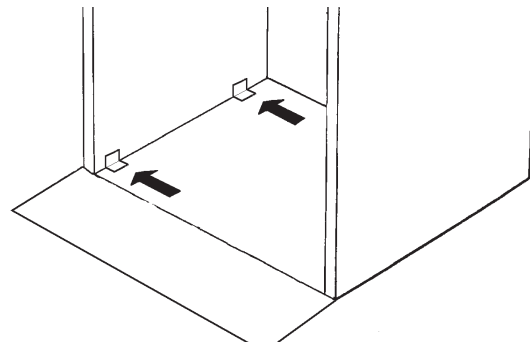

Fig. 4 Profile for the floor
10. Fit the attachment profile for the floor (see Fig. 4).